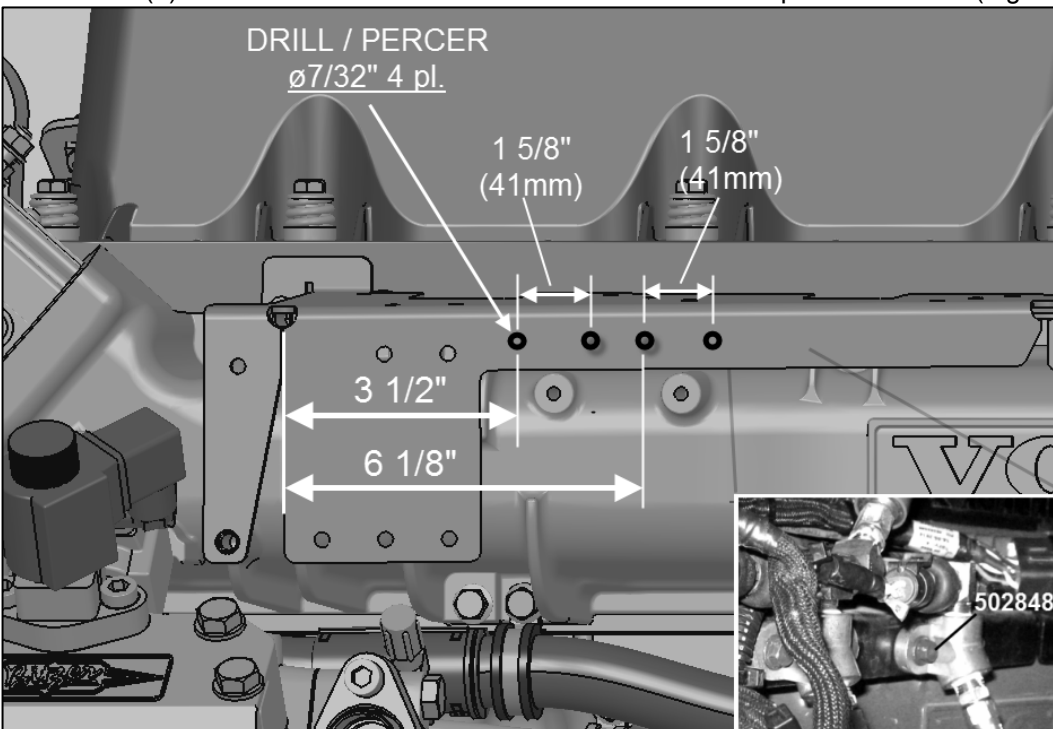

Figure 16: Drilling on the cable support
- 2.10.** On the right side of the engine, locate the cable management bracket. Remove cable tie anchor points. (Fig 16) Some vehicles may not have these anchors. See next step.